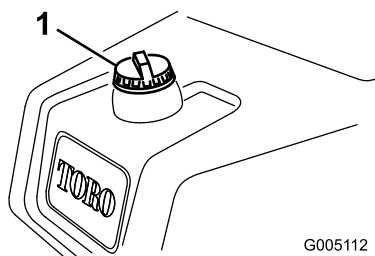

Figure 28
1. Clean around the fuel tank cap and remove it (Figure 28).